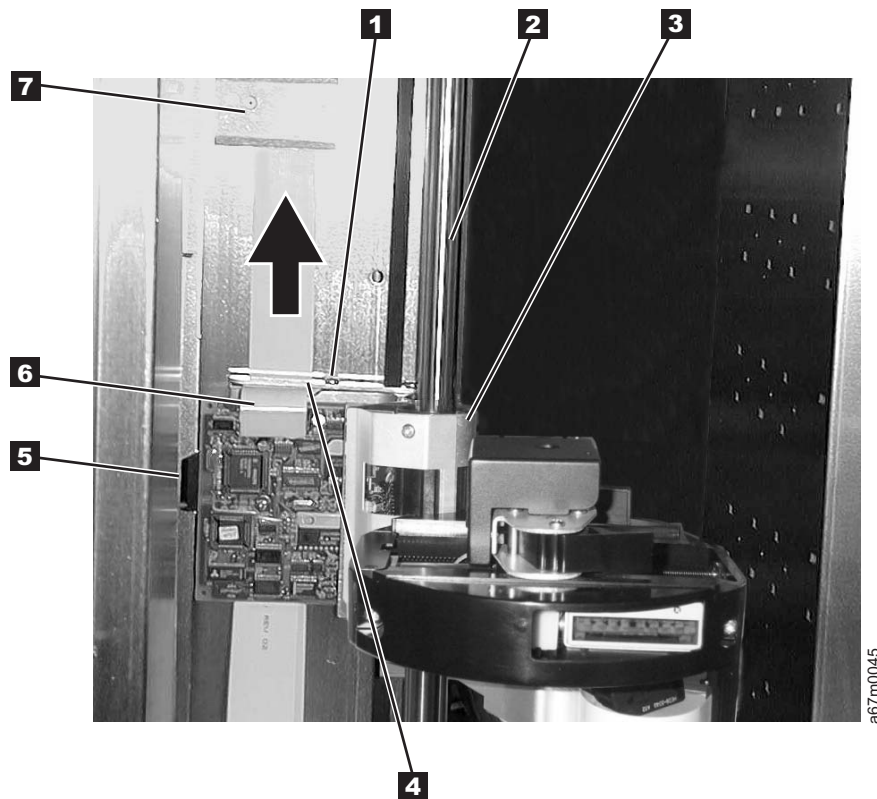

Figure 8-14. Y-Axis Drive Belt Removal and Replacement
See Figure 8-14 on page 8-19 for step 10 through step 13:
See Figure 8-14 for step 10 through step 13:
11. See Figure 8-14 on page 8-19 for next three steps. Fasten the Picker Assembly Casting to the belt clamp plate using two T20 Torx screws **1** removed in step 13 on page 8-19. Ensure the Picker Guide **5** is properly installed on Picker Guide Rail.